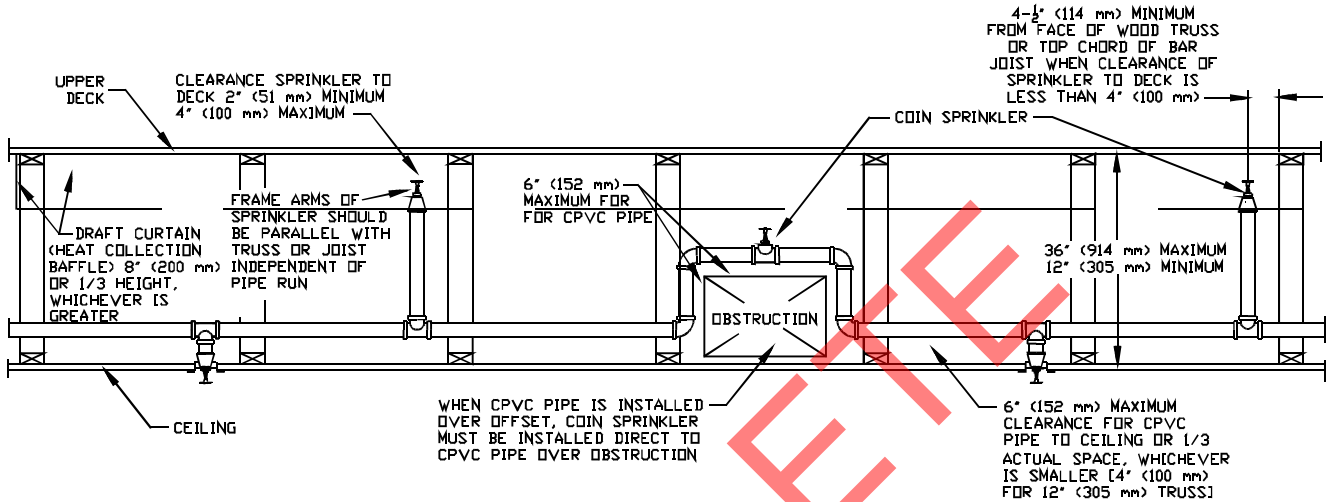

Figure 1: Wood and Steel Open Truss Construction Using CPVC Pipe (Cross Section View)
- CPVC PIPE (FIGURES 1 and 2) APPLICATION
Wood truss or non-combustible bar joist (Figure 1):
Where CPVC pipe must be installed above the maximum distance of 6" (152 mm) or 1/3 of the total space, whichever is smaller, above the ceiling when piping around obstructions, additional COIN™ Sprinklers must be installed as shown in Figures 1 and 2 in order to protect the CPVC product.
Horizontal concealed spaces of solid wood joist construction with a roof pitch of 0/12 to 2/12 maximum. The upper joist is constructed of solid wood or composite wood with a maximum depth of 12" (305 mm) typically on center of 16" (400 mm) minimum spacing. Also, steel pipe may be applied in truss construction and solid filled non-combustible insulation in upper deck and wood or composite joist construction similar to that shown in Figures 1 & 2 with the exception of extra sprinklers are not required over obstructions. Also, there is no minimum clearance for supply pipe to upper joists.